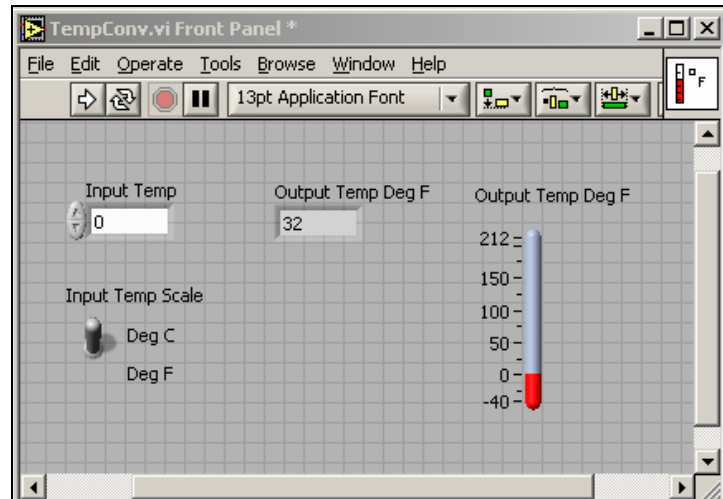

Figure 2.7: Front Panel of Temperature Converter VI with Thermometer
- iii. Now there is a digital indicator and a thermometer to represent the output temperature (as shown in Figure 2.7).